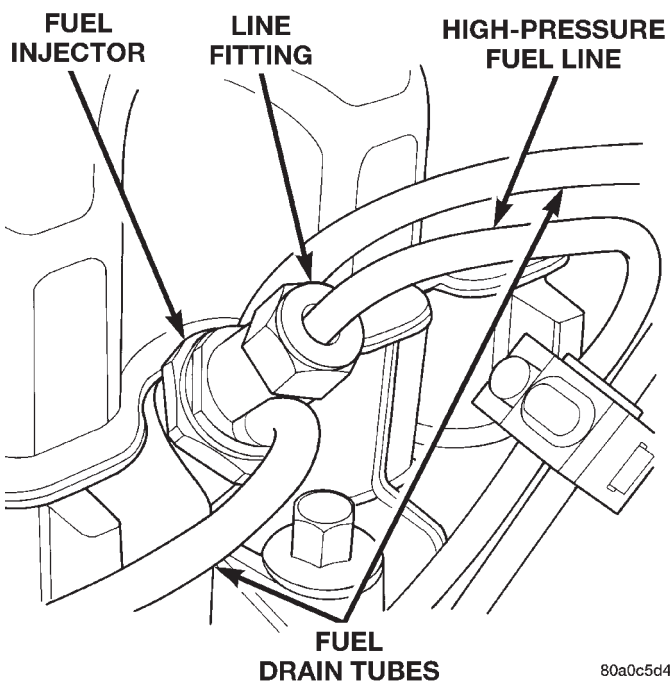

Fig. 46 Fuel Lines at Fuel Injectors
- (1) Disconnect negative battery cable from battery.
- (2) Remove the necessary clamps holding the lines to the engine.
- (3) Clean the area around each fuel line connection. Disconnect each line at the top of each fuel injector (Fig. 46).